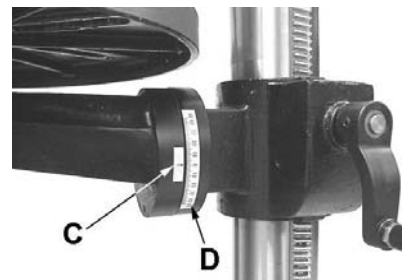

Figure 16
1. Loosen the *socket head set screw* (A) with a 3mm hex wrench.
2. Using a 15/16" wrench, loosen the *hex cap screw* (B), and tilt the table to the desired angle by aligning the *arrow* (C, Fig. 16) on the rotating part of the bracket to the desired angle (in
degrees) displayed on the *scale* (D, Fig 16) at the base of the bracket.